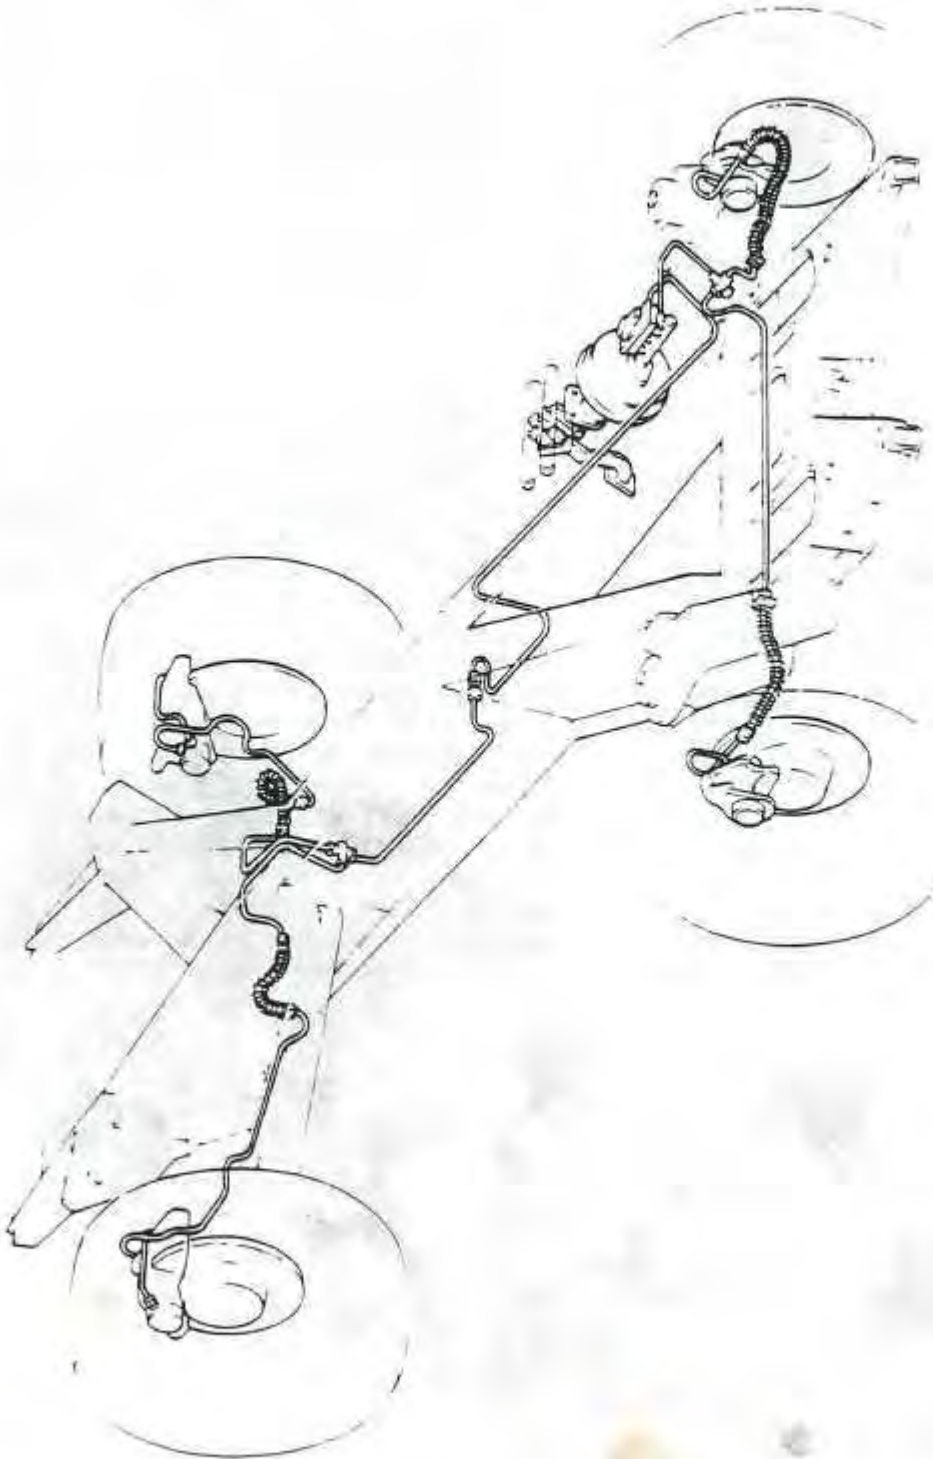

Fig. 1
The power assist from the brake servo unit is developed by engine vacuum. Engine vacuum, obtained from an intake manifold fitting, is applied to both sides of a diaphragm inside the servo unit. Depressing the brake pedal will allow atmospheric pressure to enter one side of the diaphragm. This difference in pressure develops the power assist used in applying the brake systems. The servo unit is located between the brake pedal and master cylinder. The apply pressure is transferred through two (2) in-line push rods. Should a vacuum failure occur, the two (2) push rods will act as a single rod and the brakes will continue to operate in the unassisted, conventional manner; however, additional brake pedal effort will be required. A vacuum check valve is used in the supply line where it connects to the servo unit. This check valve prevents vacuum loss from the servo unit after the engine stops running and provides enough vacuum reserve for emergency brake application. (Fig. 1)